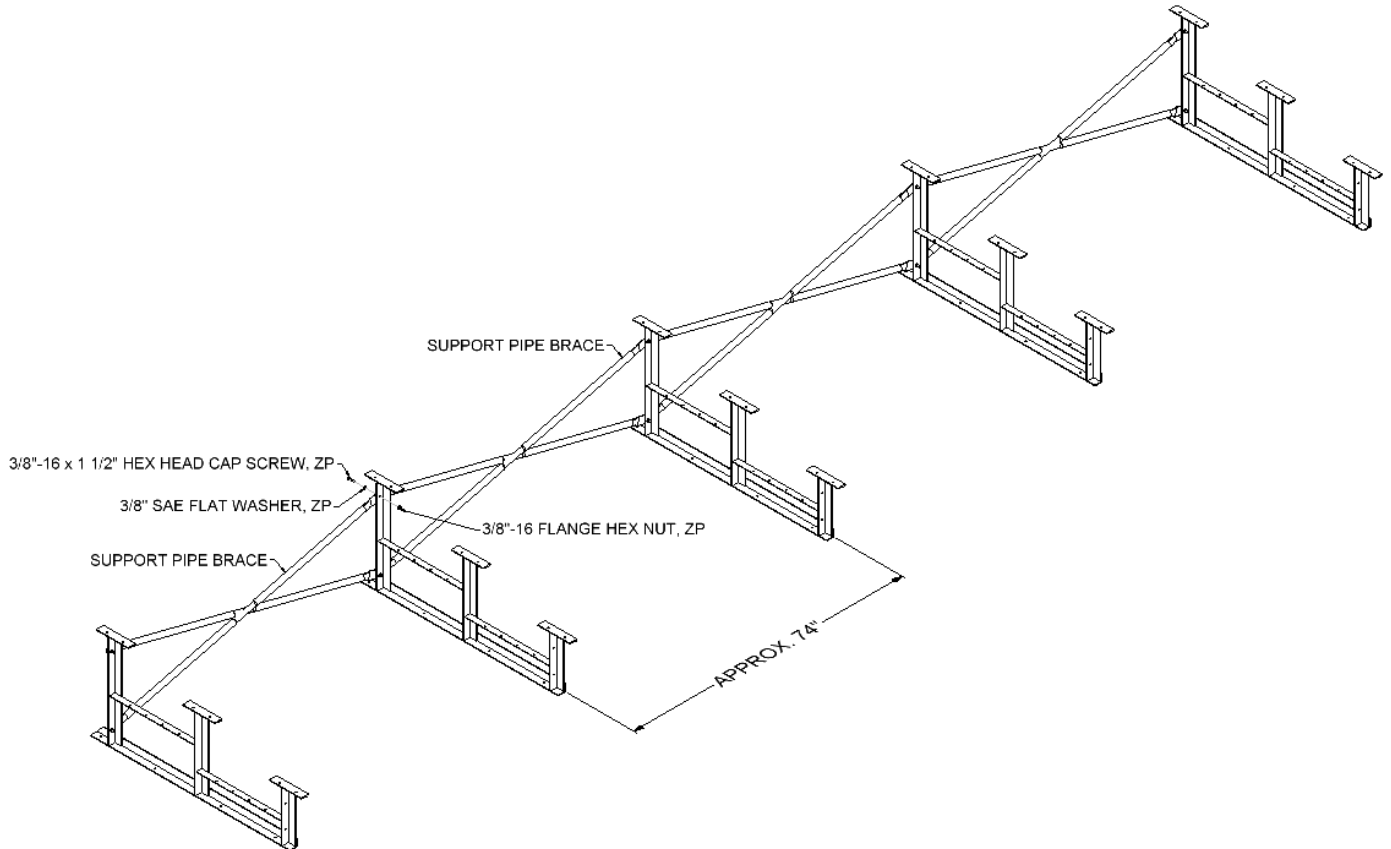

FIGURE: 1
1. Assemble undercarriage frame as shown in figure 1. Vertically plumb and square each leg before tightening cross-bracing hardware.